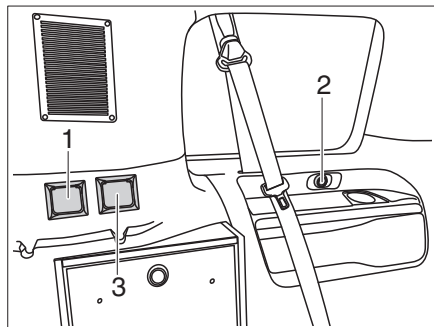
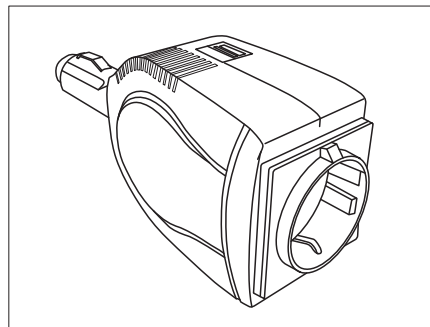

Fig. 21 Outlets in the vehicle
Fig. 22 AC converter
- using the original Citroen 12 V outlet (Fig. 21,2) while travelling with an AC converter (Fig. 22).
- using the 230 V outlet (Fig. 21,1). The vehicle needs to be connected to 230 V shore power for this option.
- using the 12 V outlet (Fig. 21,3) of the optional e-pack with an AC converter (Fig. 22).